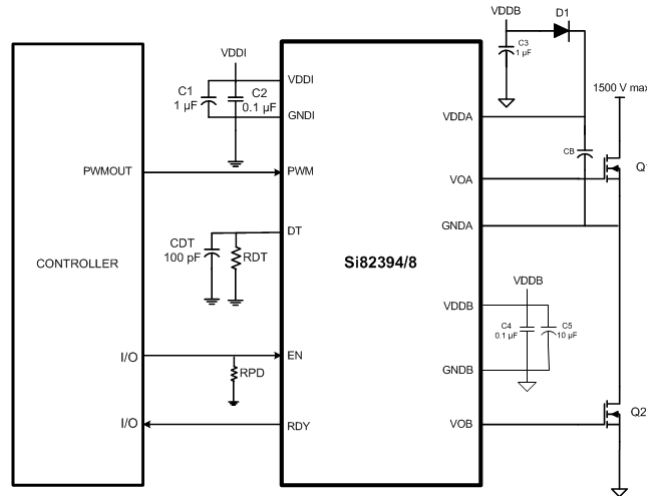

Figure 3.1. Si82394/8 in Half-Bridge Application
All high-side/low-side drivers (Si82394/8) include programmable dead time, which adds a user-programmable delay between transitions of VOA and VOB. When enabled, dead time is present on all transitions. The amount of dead time delay (DT) is programmed by a single resistor (RDT) connected from the DT input to ground per the equation below. Note that the dead time pin should be connected to GND1 through a resistor between the values of 6 k Ω and 100 k Ω and a filter capacitor of 100 pF in parallel as shown in Figure 3.1 Si82394/8 in Half-Bridge Application on page 13. It is highly recommended it not be tied to VDDI. See Figure 2.18 Dead Time Waveforms for High-Side/Low-Side Drivers on page 12 below.